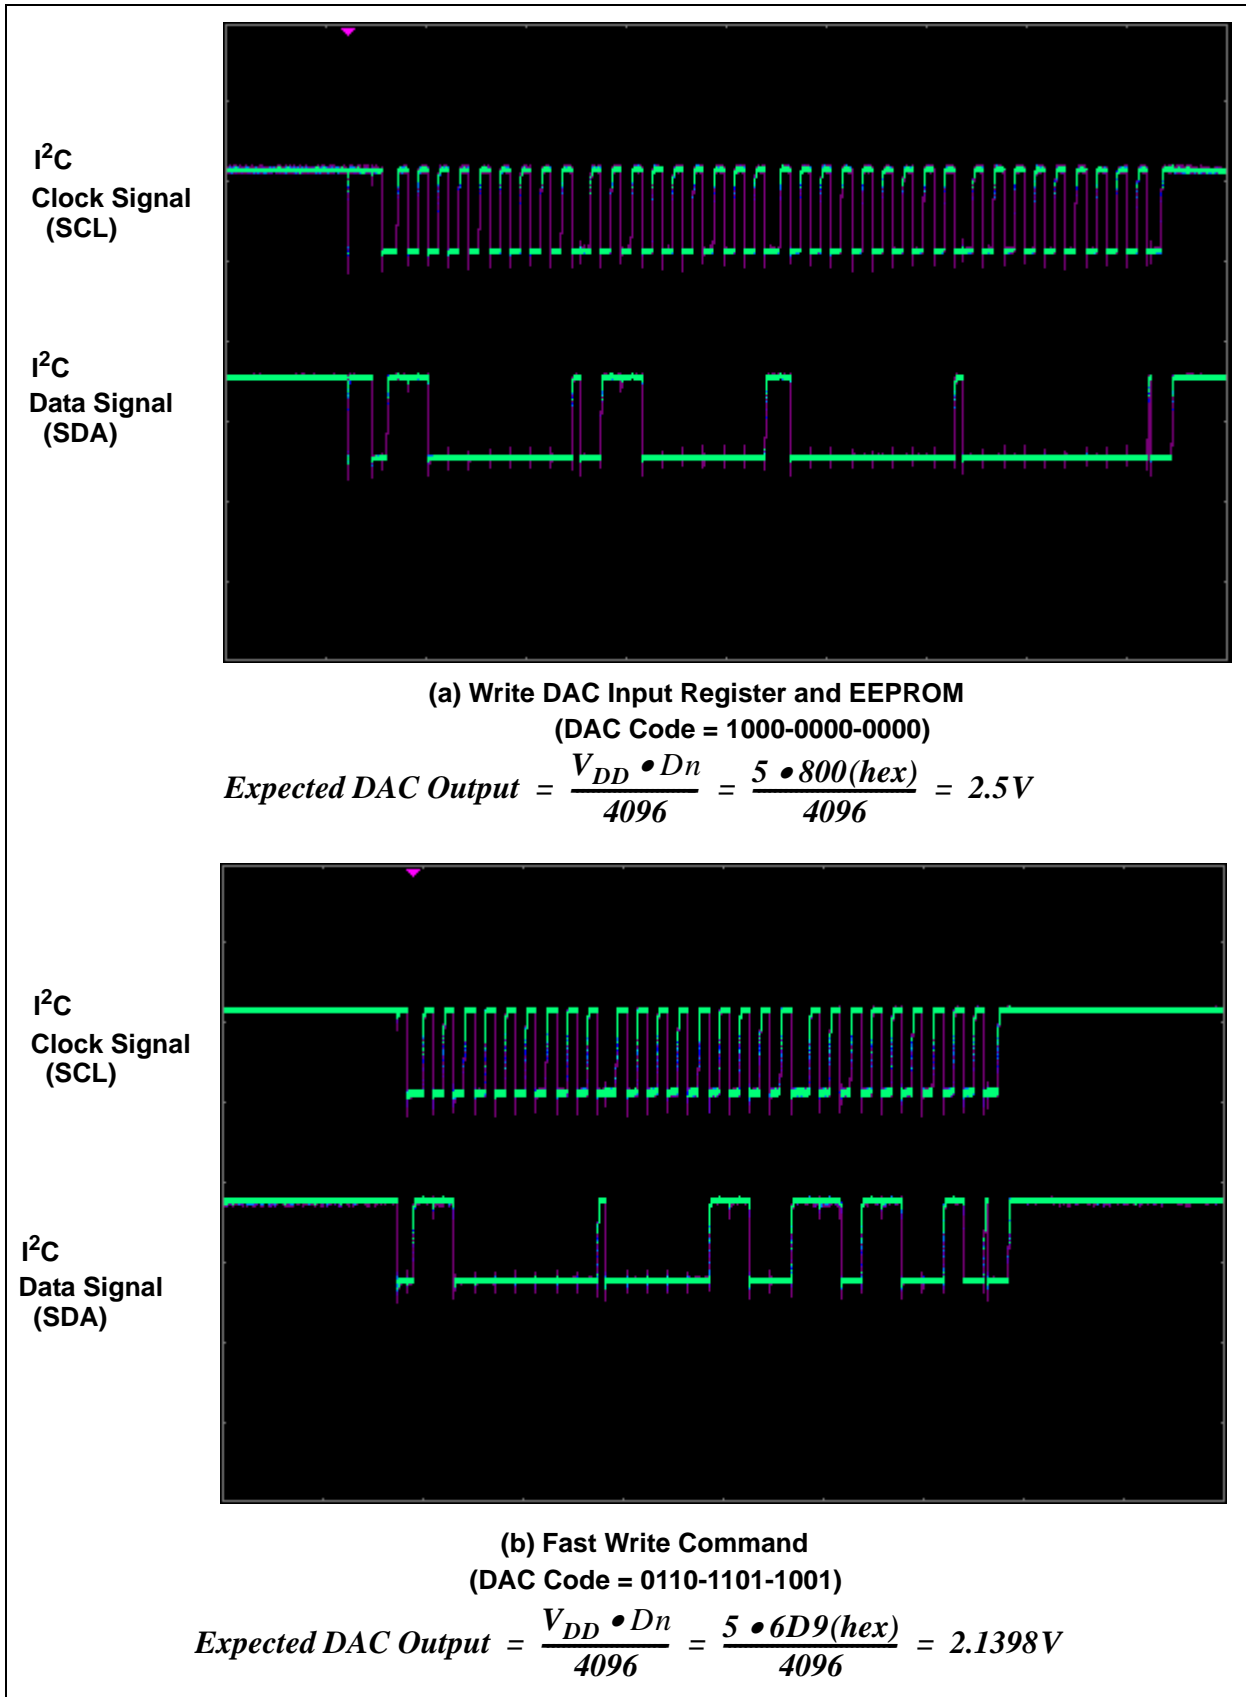
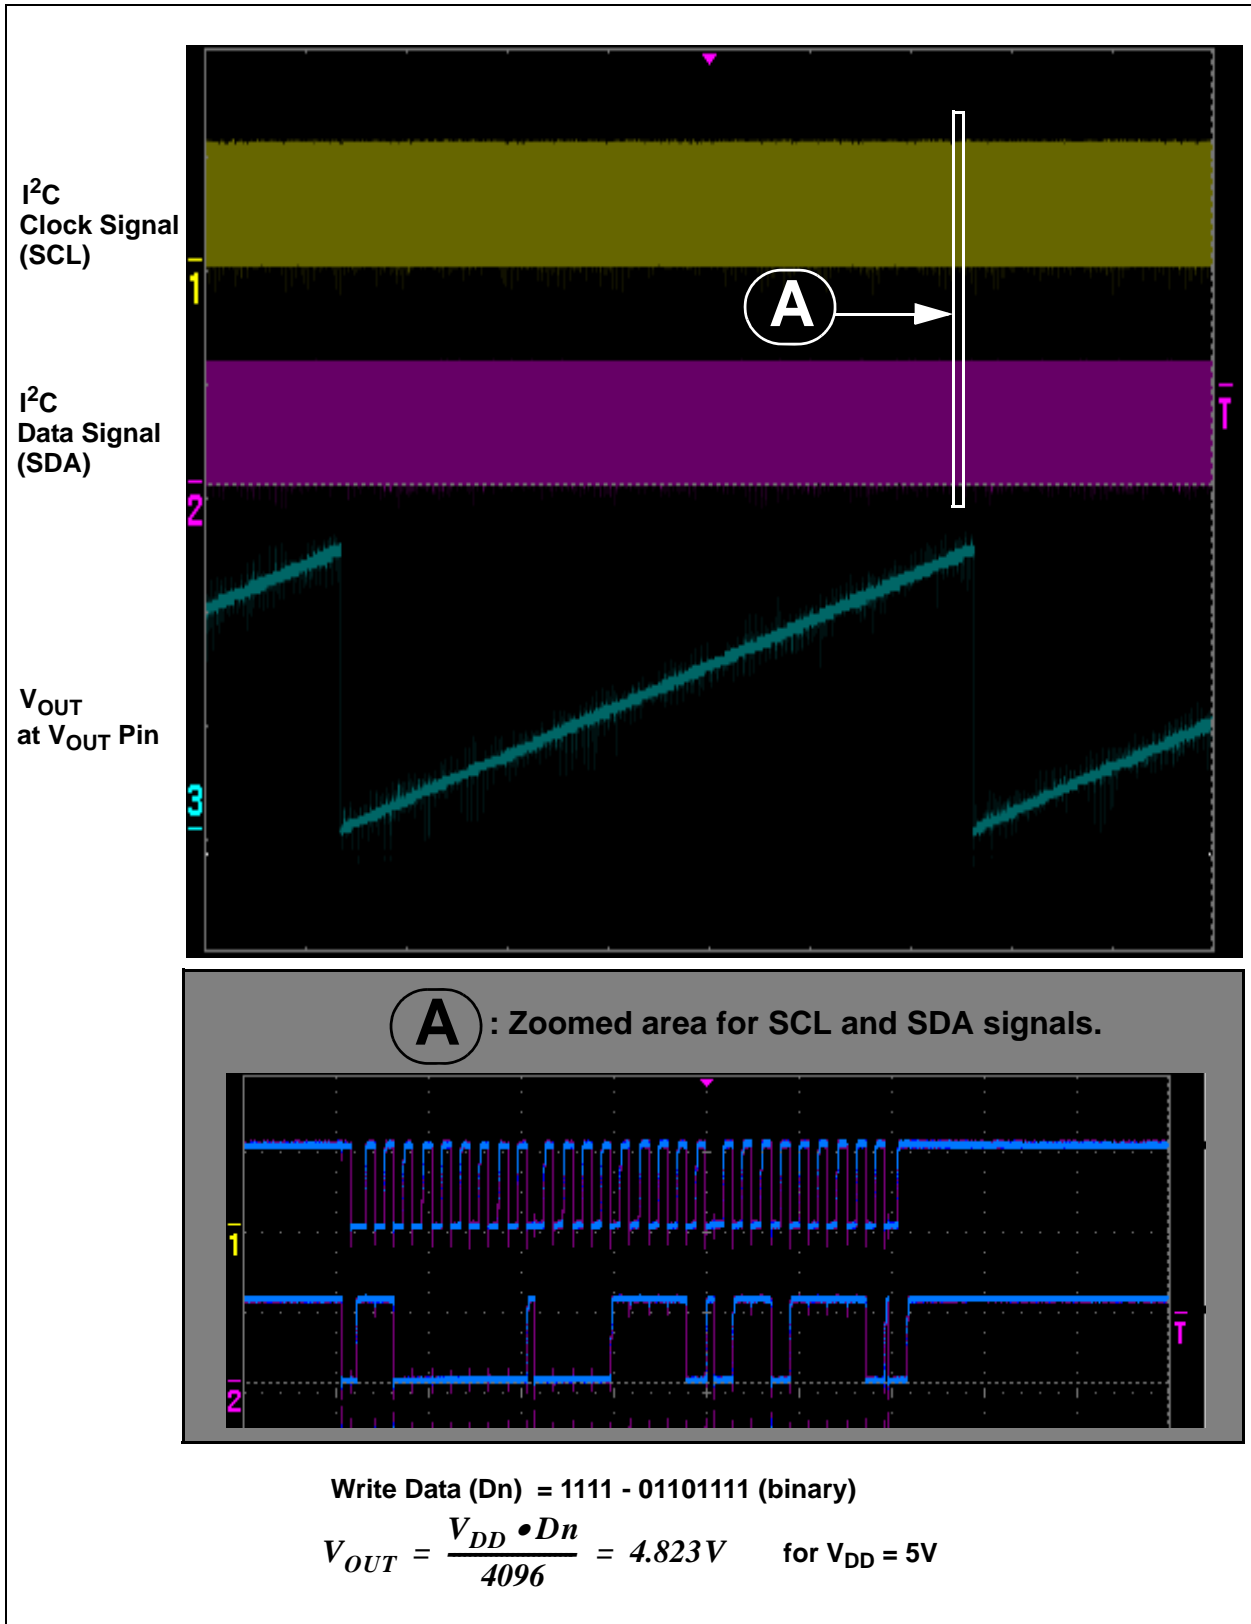

FIGURE 1-6: I²C Write Command Waveforms for the MCP4725.
FIGURE 1-7: I²C SCL, SDA, and V_{OUT} Waveforms while incrementing the DAC code by 1 LSB.
1. V_{OUT} changes as the MCU rewrites the DAC codes. See Figure 1-6 for the V_{OUT} waveform.
3. I²C data communication (SDA and SCL) waveform over the I²C bus line. See Figure 1-6 and Figure 1-7.
The user can observe the V_{OUT} at the V_{OUT} test pin using a digital voltmeter or oscilloscope. Figure 1-7 shows the I²C clock (SCL) and data (SDA) signals, and DAC output waveform.